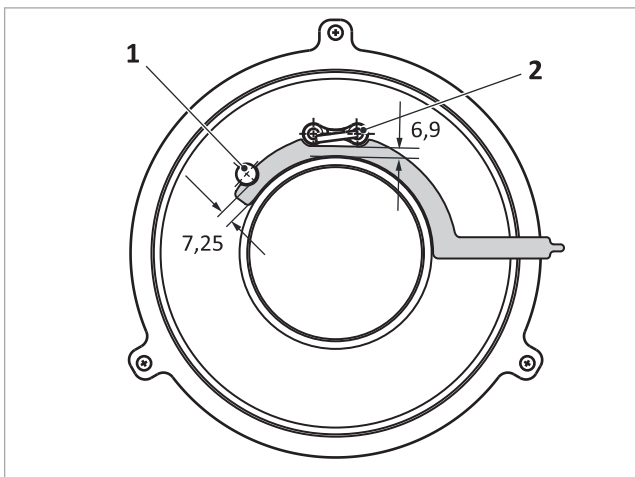

Fig. 113: Clearance from ionisation electrode and ignition electrode to burner tile
- Ionisation electrode → fig. 113 (1): 7.25 mm
- Ignition electrode → fig. 113 (2): 6.9 mm